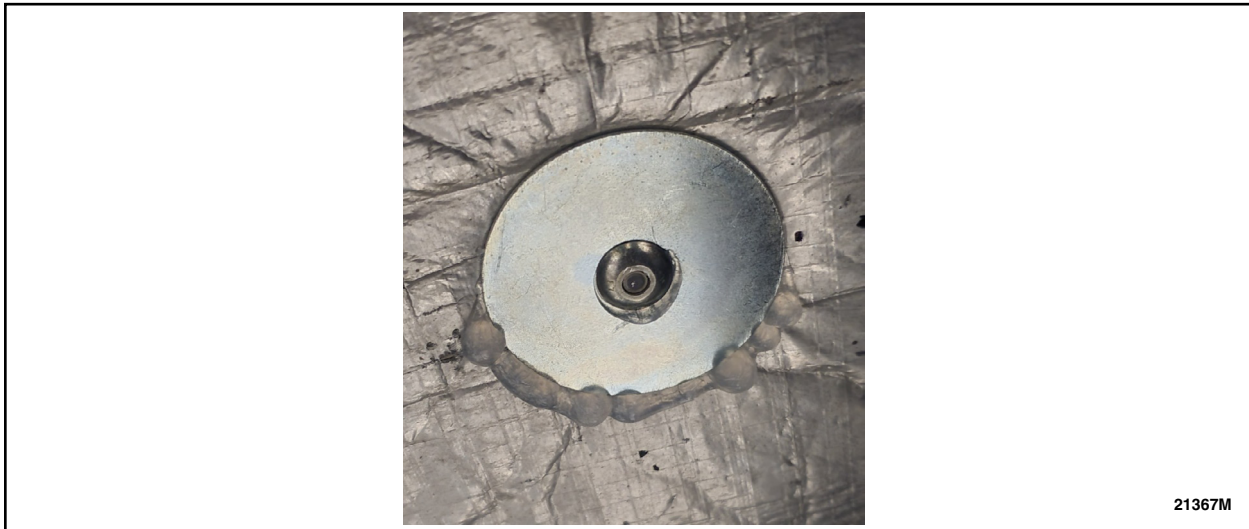

FIGURE 9
10. Using a M18-1/4" rivet gun, install the rivet and washer to the drilled hole. See Figure 9.